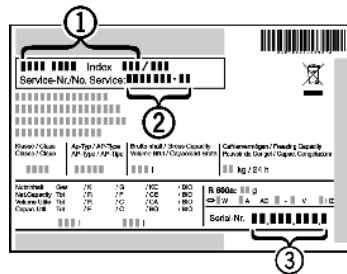

Fig. 16
- ▶ Read the appliance designation Fig. 16 (1), service No. Fig. 16 (2) and serial No. Fig. 16 (3) off the type plate located inside the appliance on the left-hand side.
- ▶ Notify the customer service, specifying the fault, appliance designation Fig. 16 (1), service No. Fig. 16 (2) and serial No. Fig. 16 (3).